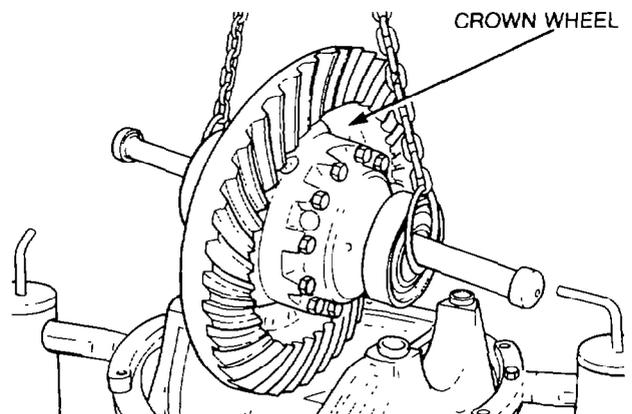

Figure 210 — Installing Crownwheel and Differential Assembly
- o. Lubricate the side carrier bearing cups with differential oil and position the cups on the bearing cones. Attach suitable lifting equipment to the crownwheel and differential assembly and lift the assembly into position in the carrier housing (see Fig. 210).